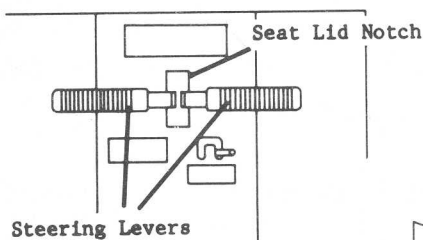

Figure 11A
7. Shut the engine off. Unlock the steering levers and place the levers in the full forward position. The levers must rest against the front edge of the notch in the seat lid (See Figure 11A). If levers do rest against the front edge of the notch, proceed to Step 9, if not, perform Step 8.